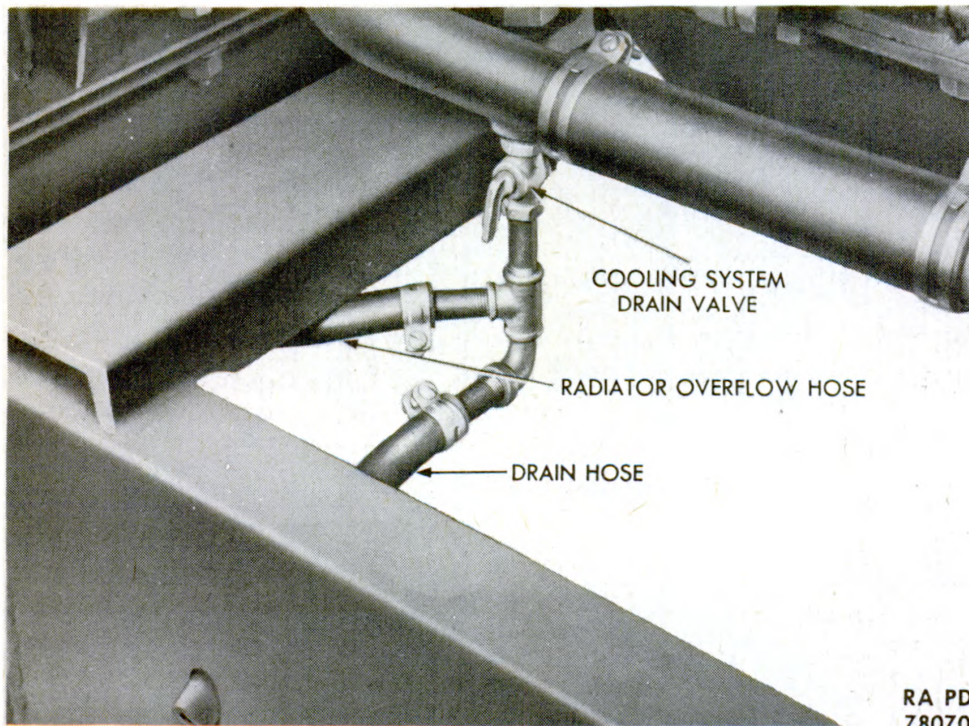
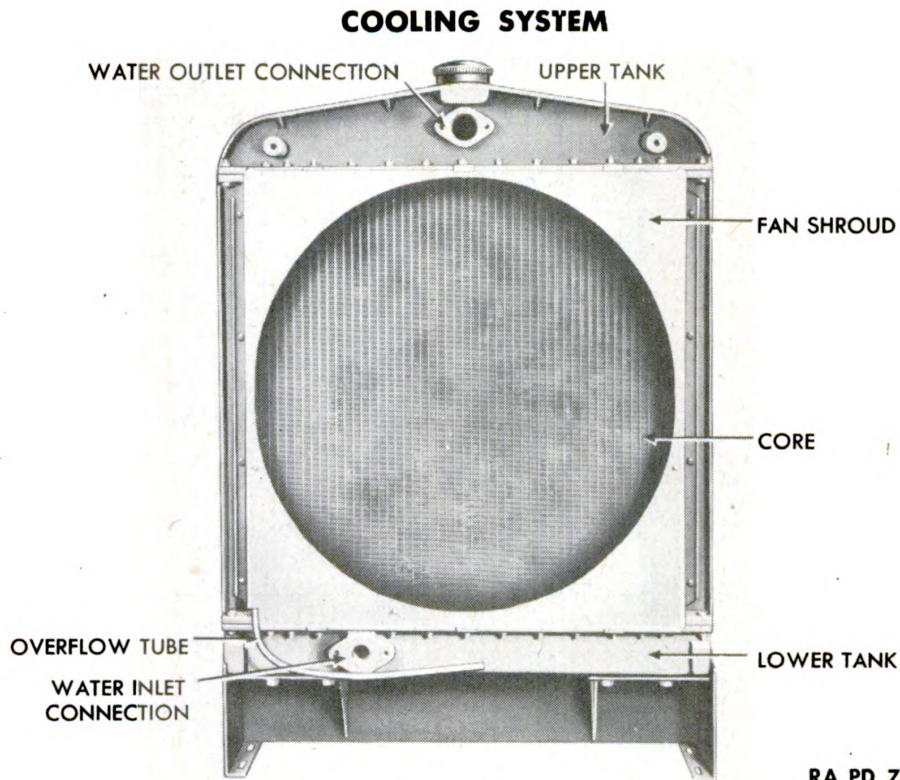
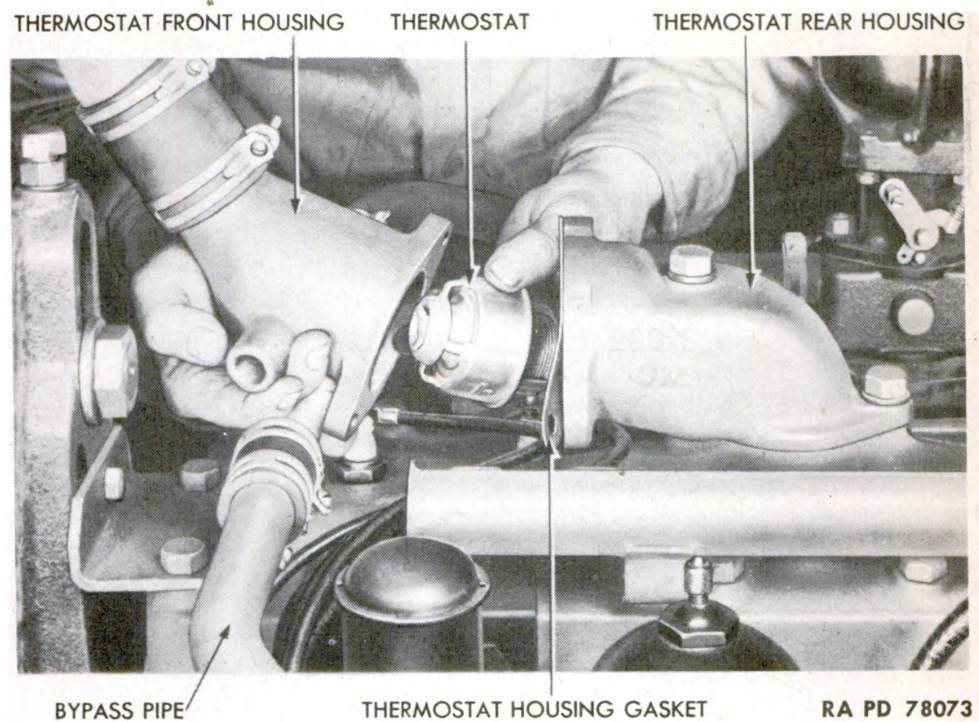

Figure 17 - Cooling System Drain
Figure 18 – Radiator and Support – Rear View
Figure 24 – Thermostat Removal
a. Construction. The water-cooling system consists of the radiator (fig. 18), thermostat (fig. 24), fan assembly, centrifugal
water pump, and the connecting lines and hose. The water capacity is 36 quarts. The system may be drained by opening a drain valve located in the water outlet pipe connected to the bottom of the radiator (fig. 17). The fill cap is in the usual position at the top of the radiator.
(1) Allow the engine to cool. Close the drain valve, run the engine at idling speed, and commence immediately to pour water slowly into the radiator. Pour until it is nearly full. Add the neutralizer compound (federal stock No. 51-C-1568-500) in the proportion of one container of neutralizer to every 4 gallons of cooling system capacity. Then fill the system with water.
(2) With the radiator covered, run the engine for at least 5 minutes at operating temperature. Then stop the engine.
(3) Drain the system completely by removing the radiator cap and opening the drain valve (fig. 17).
52. RADIATOR (fig. 18).
(1) Drain cooling system (fig. 17).
(2) Loosen clamp screw holding hose section to water pump elbow. Take out cap screws fitting water pump elbow to water pump. Remove elbow.
(3) Loosen clamp screws holding top and bottom hose sections to bypass pipe, and remove pipe.
(4) Separate coupling chain attaching pump drive to accessory drive by forcing out removable link.
(5) Take out cap screws and lock washers holding water pump and gasket to engine block. Lift pump and gasket from engine.
(2) Bring coupling chain around coupling sections, and lock in place by inserting removable link.
(3) Connect top of bypass pipe to thermostat housing with the rubber hose. Tighten clamp screws, connect bottom of bypass pipe to the water pump connection by the hose section, and tighten clamp screws.
(4) Insert pipe end of water pump elbow in rubber hose in bottom water line. Bring flanged end to water pump, and install cap screws and lock washers provided. Tighten clamp screw holding hose to pipe.
56. THERMOSTAT (fig. 24).
(1) Open cooling system drain valve (fig. 17). This will drain engine, radiator, and water lines.
(2) Loosen screws on clamps holding hose to thermostat housing, and disconnect bypass pipe from housing.
(3) Take out the cap screws and lock washers through the flanges of the thermostat housing, and separate the housing. The thermostat may now be removed from the housing (fig. 24).